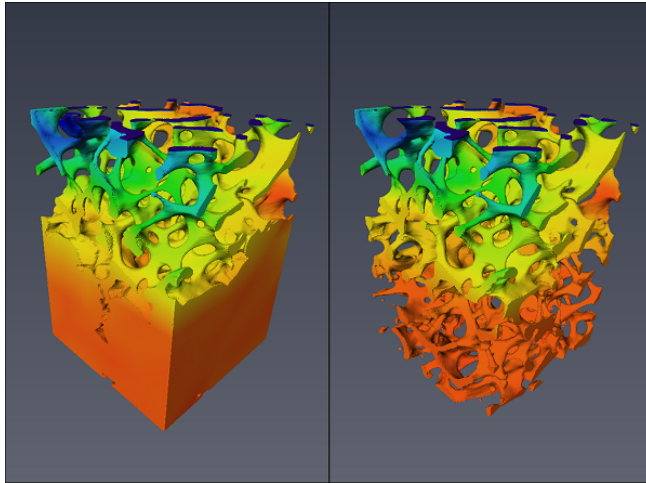

Figure 19.16: 3D Visualization of the Axial Strain in the Bone-Cement (left) and Bone phase (right)
- Using the *Buffer* port, click on **Clear** action button then select a Material of interest (bone or cement) and click on **Add** action button to display it. (see Figure 19.16).